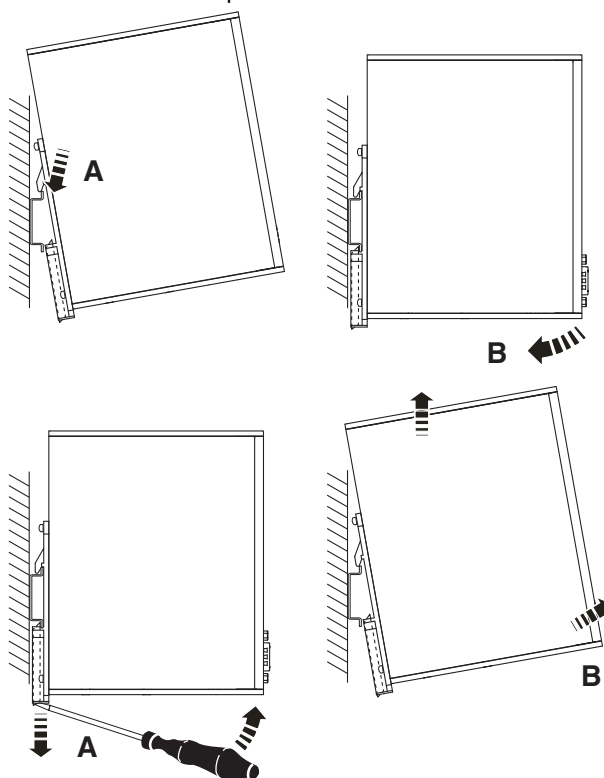

Figure 2 DIN rail installation and removal
1. Mark mounting holes in the mounting surface (wall) as indicated in Figure 2. Alternatively, hold the VL BPC 100... in position and mark the holes on the wall.